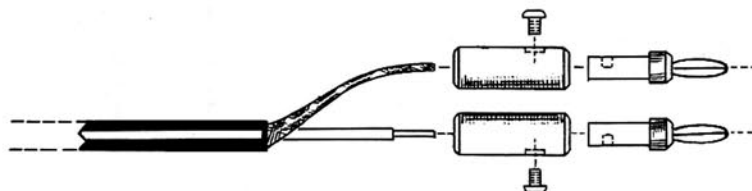

Figure 17
- () 254. At the opposite end of the cable, strip away $1\ 1/2''$ of outer insulation and pull the center conductor through the side of the braid. Strip about $1/4''$ of insulation from the center conductor and tin the exposed wire. Slip a red sleeve over a banana plug so that the holes line up and push the wire in as far as it will go. Secure the assembly with a small 4-40 screw. Twist the end of the braid tightly, tin the end and secure to a banana plug with a black sleeve in the same manner. See Figure 17.